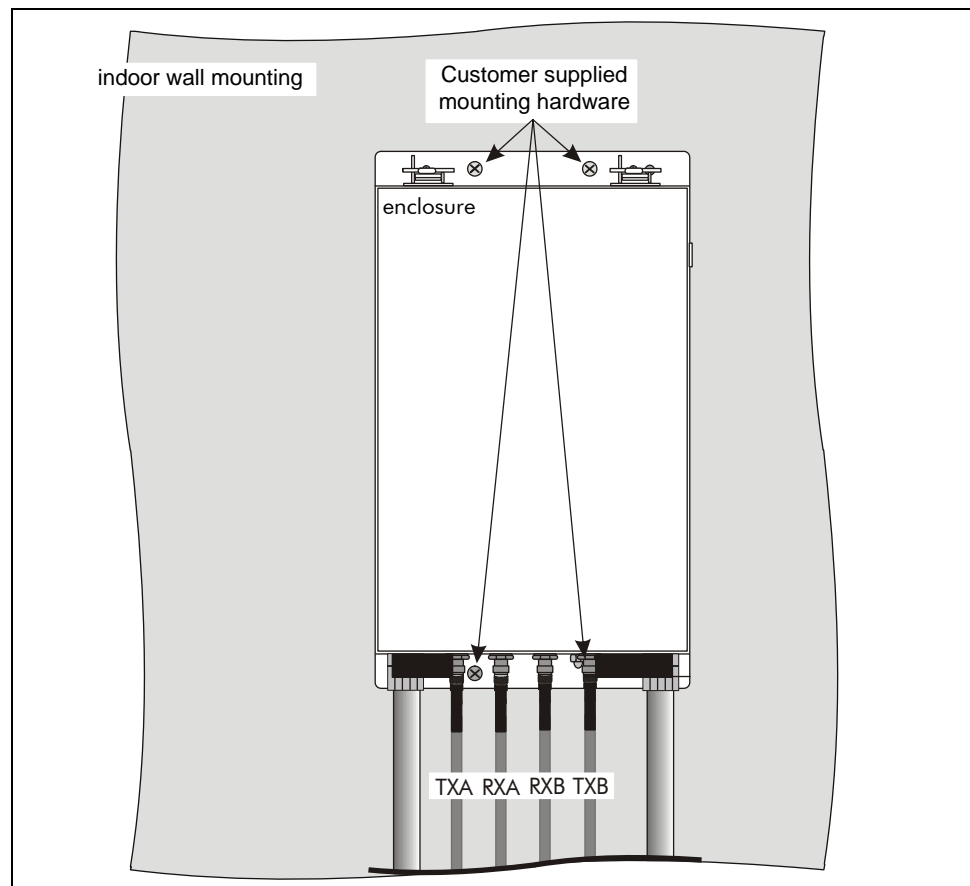

Figure 57: Indoor wall-mounting the OmniTrax enclosure
2. Using appropriate hardware, mount the enclosure on a stable, fixed surface (see Figure 57: Indoor wall-mounting the OmniTrax enclosure).